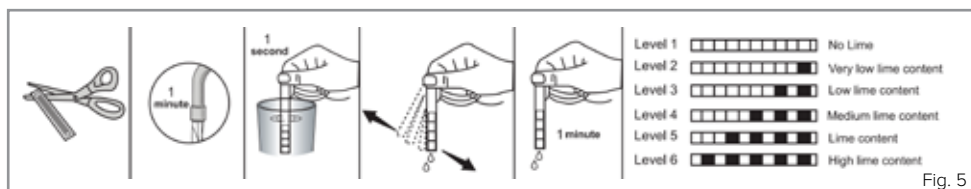

Fig. 5
- Open the testing strip (Fig. 5).